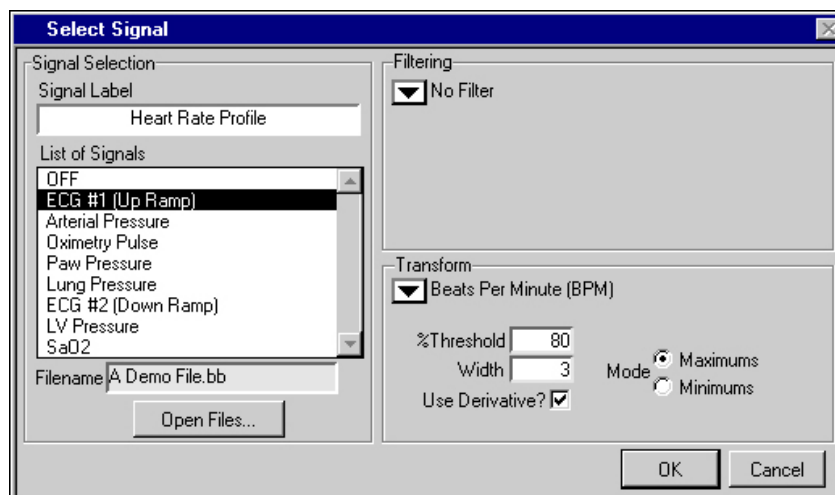

Figure B-15. Select Signal Dialog Box for BPM Transformation
4. Click on the signal label in the upper left corner of the bottom graph. The Select Signal dialog box shown in Figure B-15 appears. Highlight the ECG signal in the List of Signals.